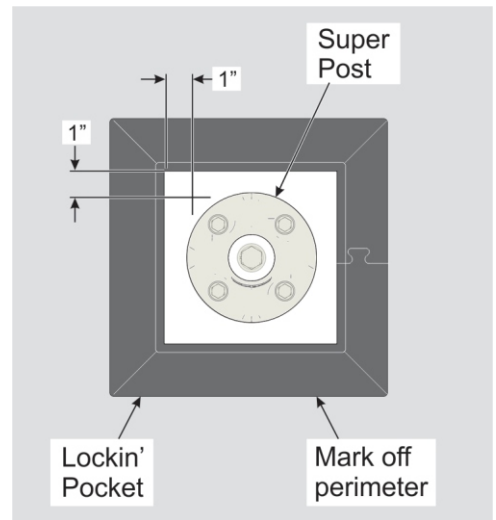

Figure 2-1: Aligning the Lockin' Pocket to Super Post
- A. Place and center the Lockin' Pocket around the Super Post, leaving a 1-inch clearance between the Pocket and the Post. (See Figure 2-1)